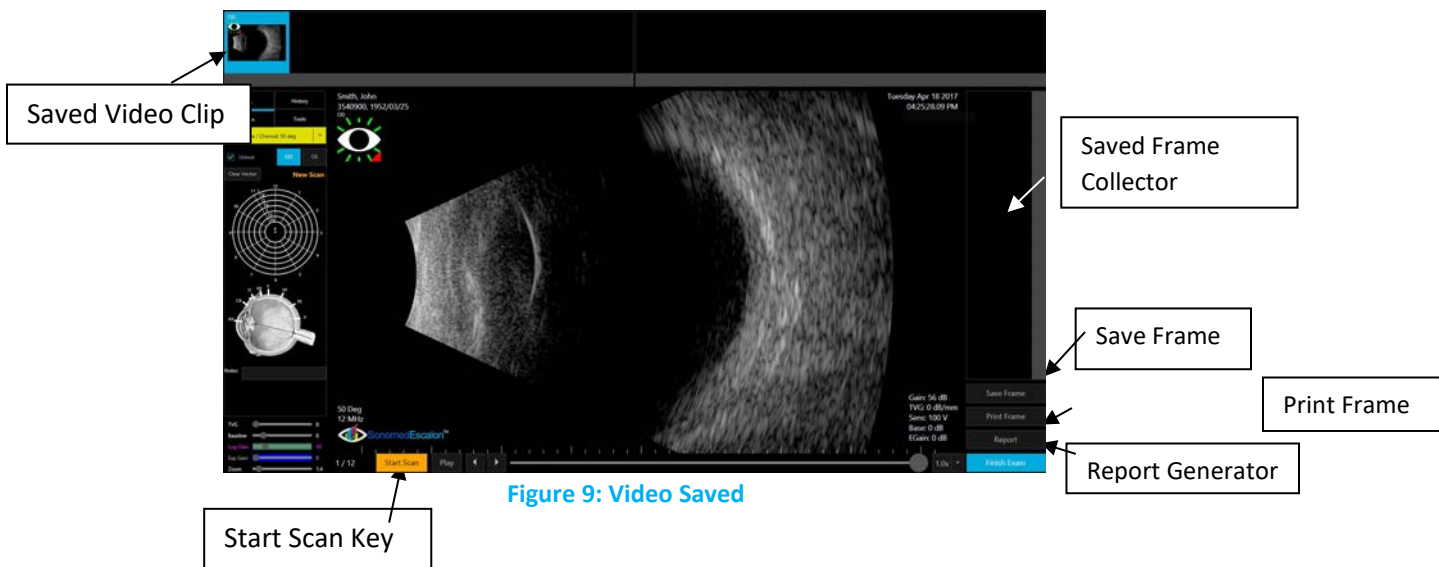

Figure 9: Video Saved
④ Pressing the <Start Scan> button again, will begin a new scan. A single FRAME can be “Saved” or “Printed” from any video clip by stopping the playback at the desired frame and pressing the <Save Frame> or <Print Frame> keys located at the bottom right side of the display. [See Figure 9].